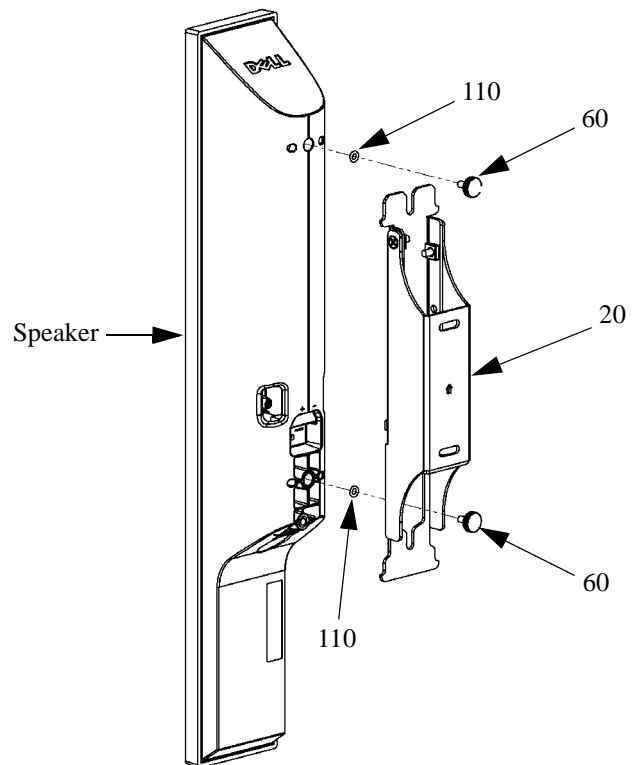

Figure 14. Install Speaker Using Two Thumb Screws
1. Install two thumb screws (50) and two O-rings (110) into the threaded holes on the speaker. Do not tighten the thumb screws at this point. (see Figure 14).